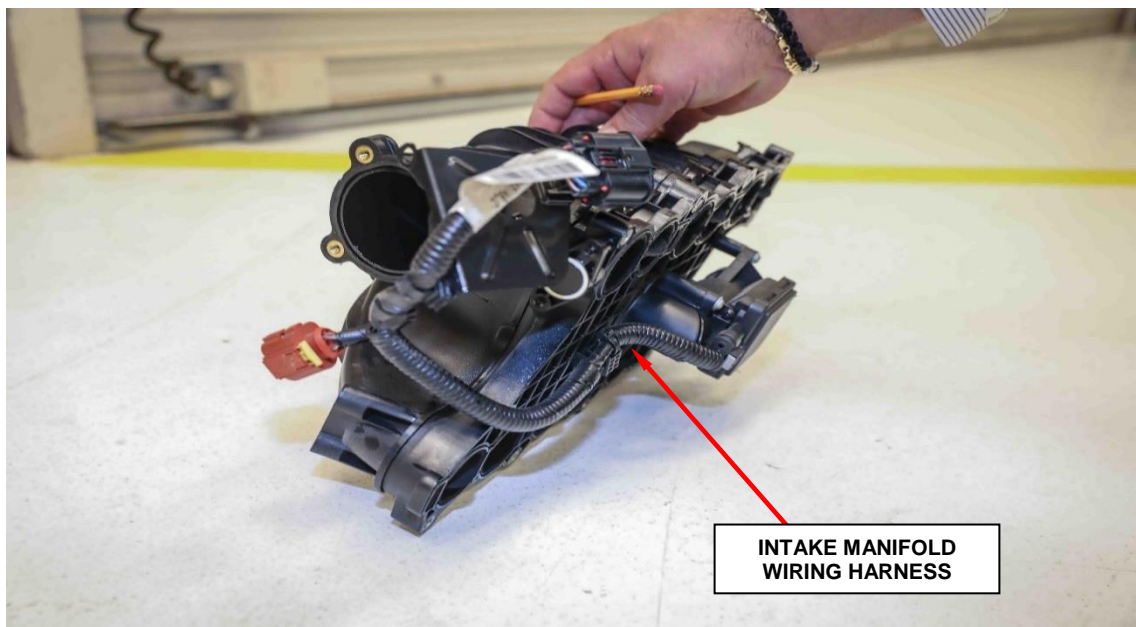

Figure 22 – Intake Manifold
34. Transfer the intake manifold wiring harness onto the **NEW** intake manifold (Figure 22).